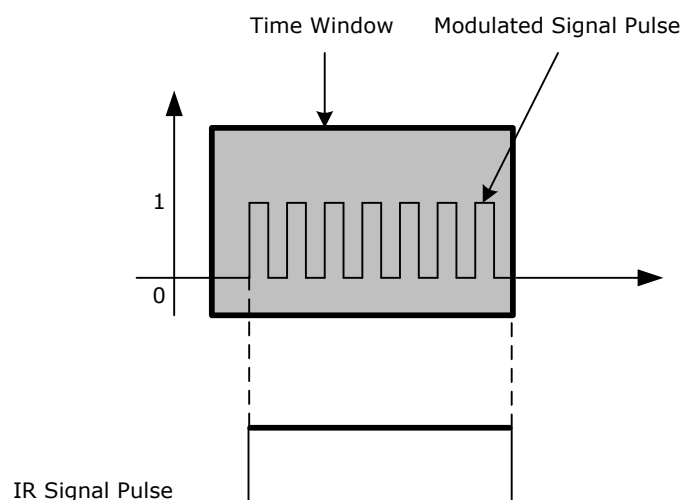

Figure 11-4 Detecting an IR Signal
1. To detect whether there is an IR signal in the time window via three parameters (as shown in Figure 11-4):